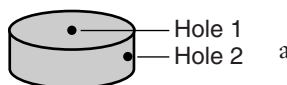

Figure 1. Cap
2. Melt a hole in the center of the flat surface of the cap (see Figure 1) using heated straightened paper clip or dissection needle. (A candle or burner may be used to heat the paper clip.) The motor axle of the centrifuge device should fit snugly through this hole.